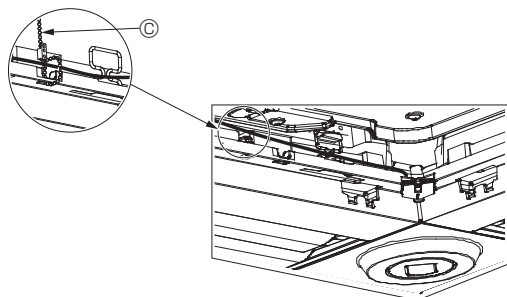

Fig. 10-12
- Secure the i-see Sensor and signal receiver wires to the panel with the fastener as shown in the diagram so that there is no slack in the wires, and then cut off the excess end of the fastener. (Fig. 10-12)
- If the position of the i-see Sensor was changed from the "o" position (E) to the "□" position (F), change the function settings. (Refer to page 14.)